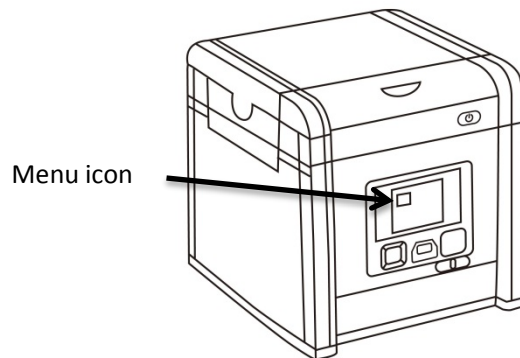

Figure 4
6. The Menu Mode icon will be displayed on the top left side of the display (**Figure 4**).